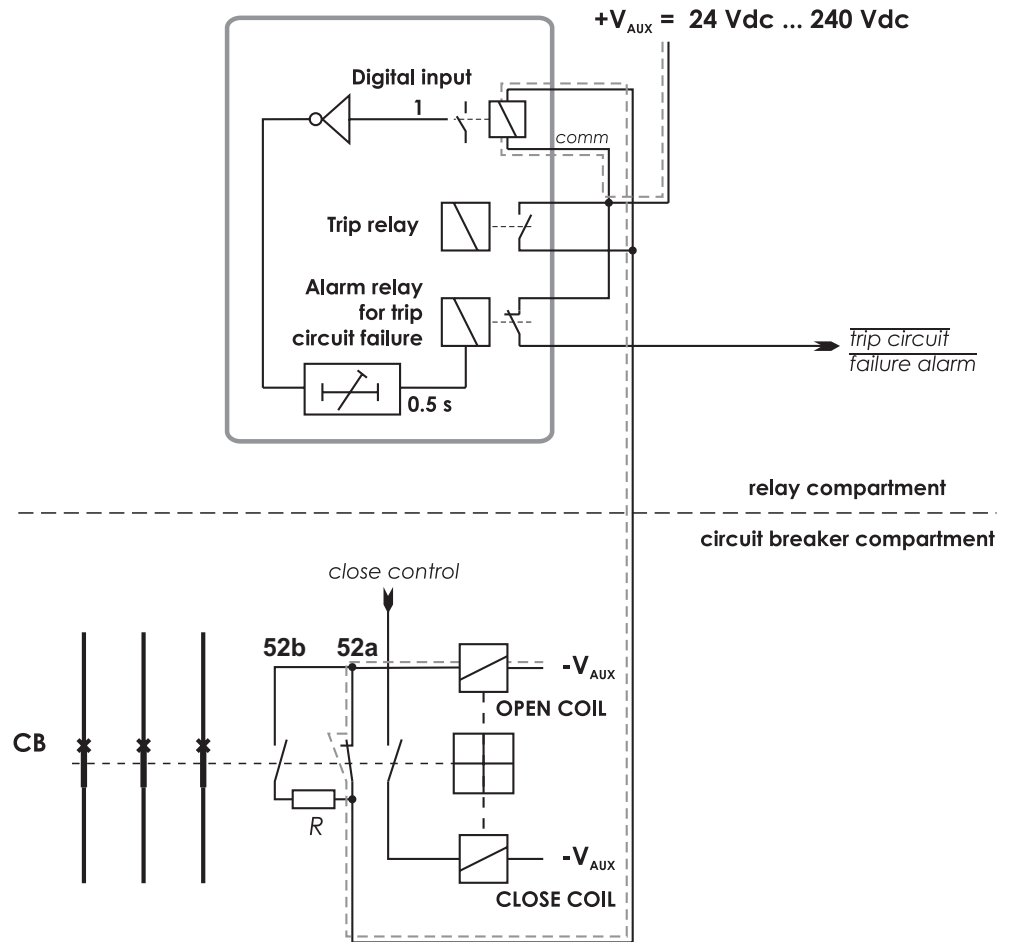

Figure 7.13: Trip circuit supervision using a single digital input and an external resistor R.
- The digital input is connected parallel to the trip contacts (Figure 7.13).
- The digital input is configured as normal closed (NC).